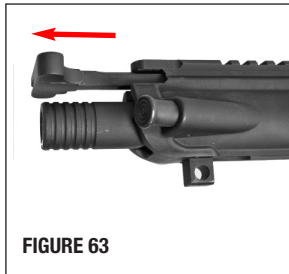

FIGURE 63
- Pull back on the charging handle and bolt assembly (FIGURE 63).